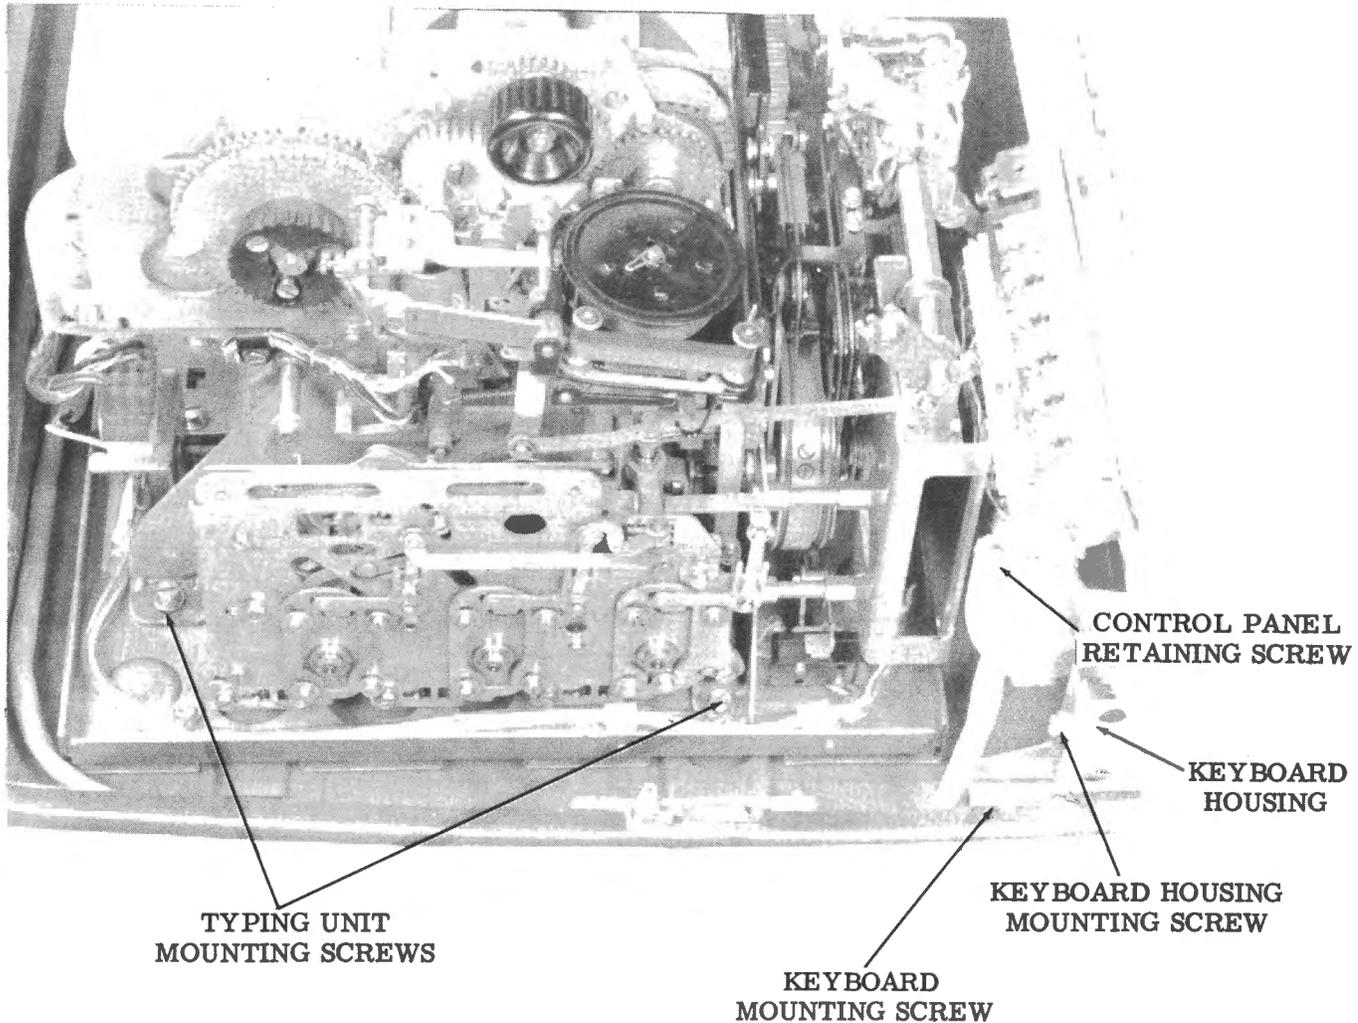

Figure 2 - Typing Unit and Control Panel
2.01 To remove the typing unit from the base, proceed as follows (Figures 2 through 4).
- 2.02 To replace the typing unit, proceed as follows (Figures 2 through 5).
2.03 To remove the control panel, proceed as follows (Figures 2, 3, 6, and 7).
2.05 To remove the keyboard from the base assembly, proceed as follows (Figures 2, 3, and 6).